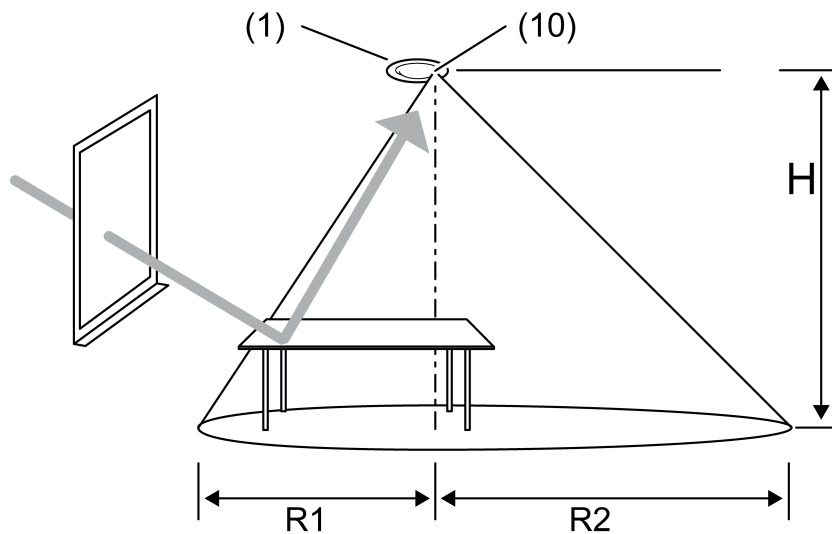

Figure 7
- When mounting, align the device so that the brightness sensor (10) is not facing the window (figure 7).